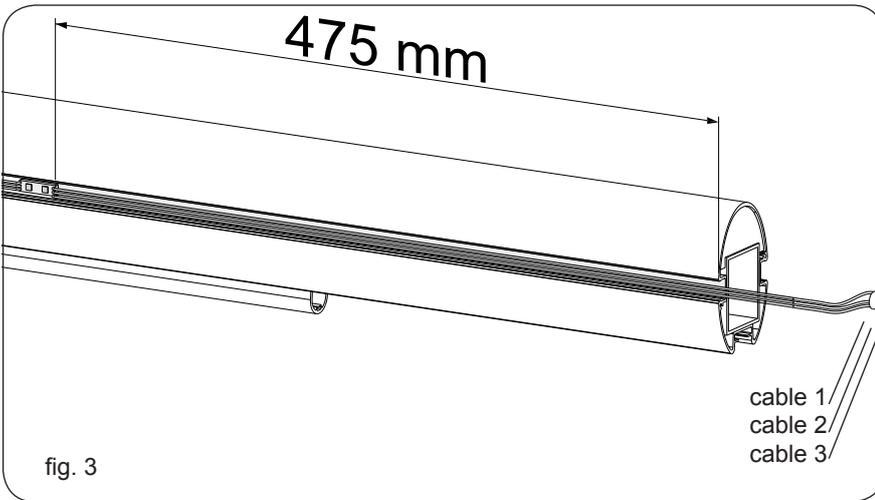

fig. 3
- 2_ apply the LEDs paying attention to the starting figure (fig. 3);